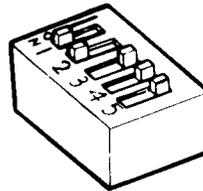

Fig. 2—Standard Switch Positions
1.08 The options on the logic circuit card or in the PT unit (ASR) are factory optioned and should not be changed unless the local engineering requirements specify incorporating a nonstandard option (Fig. 2).